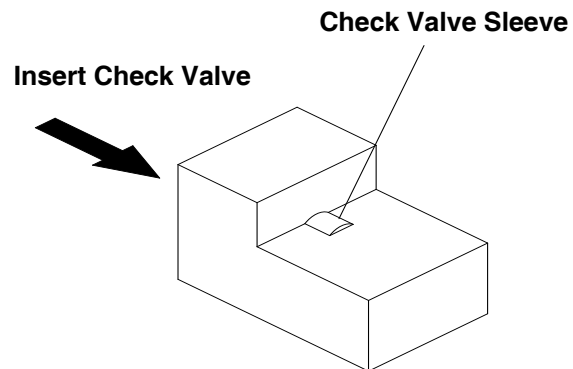

FIG. 24 Sleeve Removal Block
- g. Remove ball and spring. Insert check valve into check valve sleeve removal block (FIG. 24).